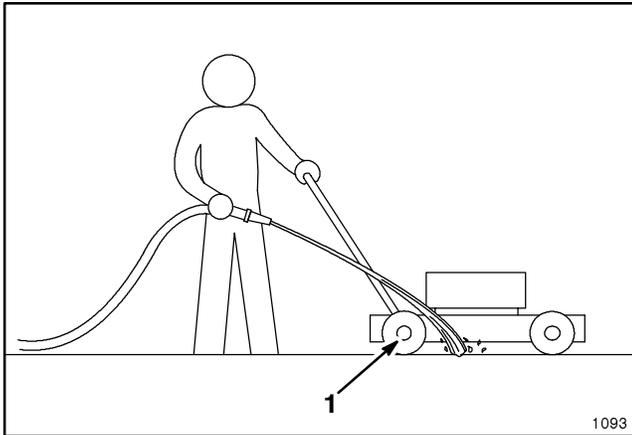

Figure 31
3. Hold the running garden hose at handle level and direct water to flow on ground just in front of right rear tire (Fig. 31). The rotating blade will draw water under the housing and wash out clippings. Let the water run for a few minutes or until you no longer see clippings being washed out from under housing.